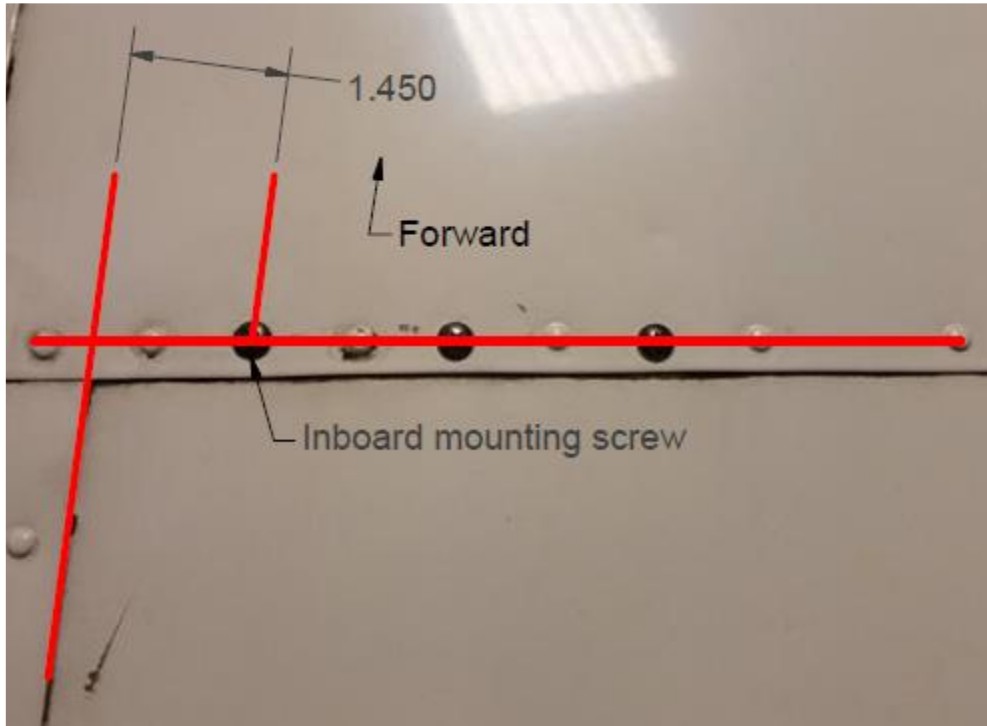

Figure 2-3
- 2.1. Locate the inboard screw hole as shown in figure 2-3 on the upper wing skin.